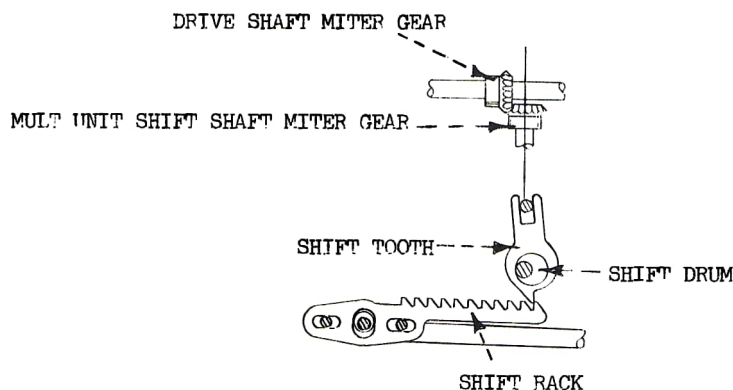

FIG. 1
4. The adjustment arm causes the relatch lever to move rearward and through a link disables the holding pawl and feed pawl from the segment, Fig. 1.